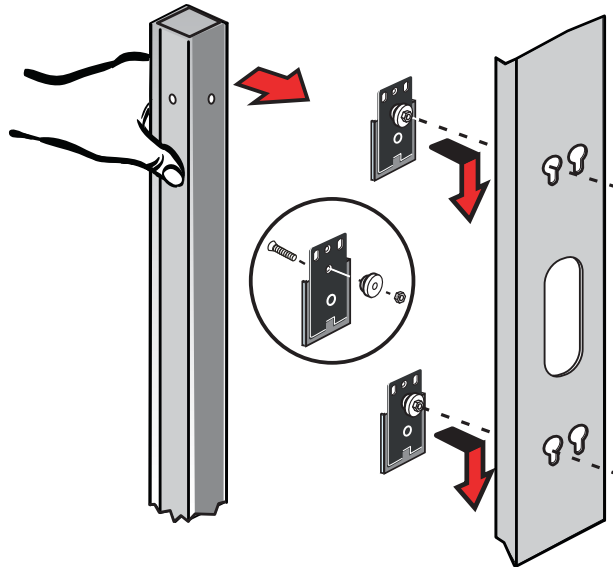

Figure 20. Attaching the Mounting Buttons to the Mounting Clip Feet
1. Locate the two mounting clip feet, M6 flathead screws, two spare plastic mounting buttons, and mounting hardware (M4 screws and M4 hex nuts, or M3 screws). Using a Phillips screwdriver, assemble the mounting buttons and clip feet (see Figure 20).